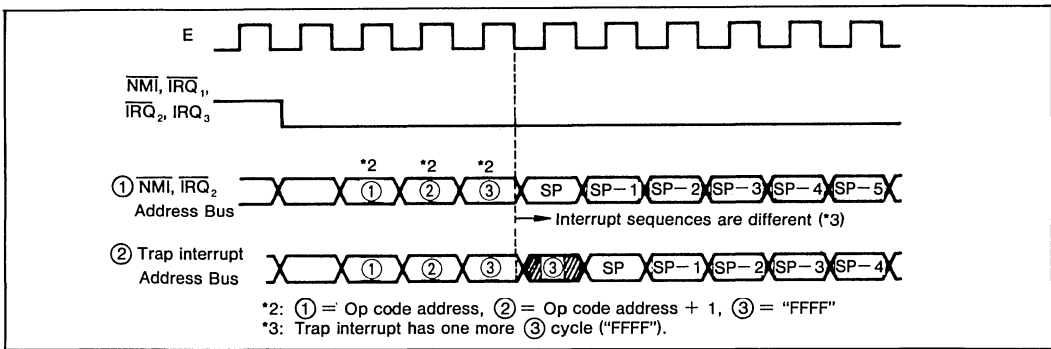

Figure III-8. Interrupt Sequence
- Interrupt sequence (figure III-8)